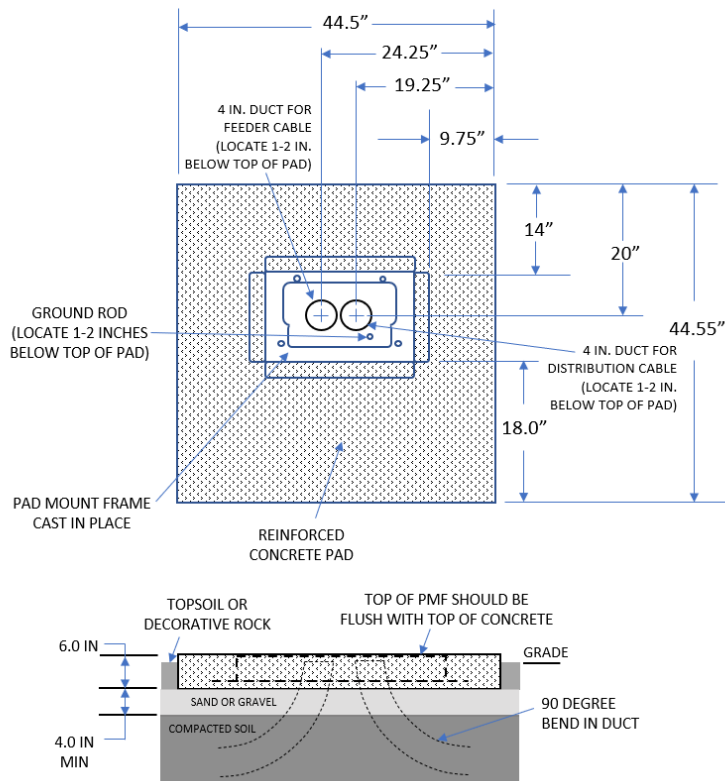

Figure 12. Constructing the Concrete Pad
Prepare a base for the concrete pad that meets all local code requirements. The base must have a footing of 4 to 6 inches (10.2 to 15.2 cm) of sand or gravel (per local practice) on firmly compacted soil. Refer to the construction diagram in Figure 12 for details.
11.2.3.2 Locate the PMF as shown in the construction diagram (see Figure 12). When installed, the top surface of the PMF must be flush and level with the top of the concrete pad.
Install a grounding system (not provided) that meets all local electrical codes. Check local codes for grounding system installation, use of clamps, wire size, and any other grounding requirements. Typically, #6 AWG copper wire is used for the ground wire. If the grounding system includes a ground rod, install the rod (see Figure 12) within the PMF opening at the indicated point. When installed, the top of the rod should be located 1 to 2 inches (2.54 to 5.08 cm) below the top of the finished concrete pad. Leave sufficient slack in the grounding wire to allow it to be routed into the cabinet after the cabinet is mounted on the pad.